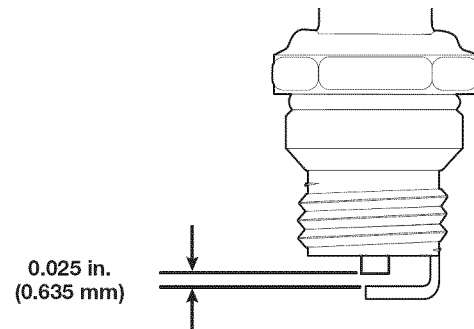

Fig. 16
4. Use a feeler gauge to set the air gap at **0.025 in. (0.635 mm)** (Fig. 16).